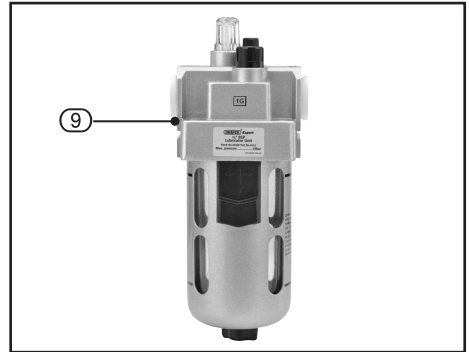

FIG.5
8.6 USING A 1/2" BSP AIR TOOL LUBRICATION UNIT – FIG.5